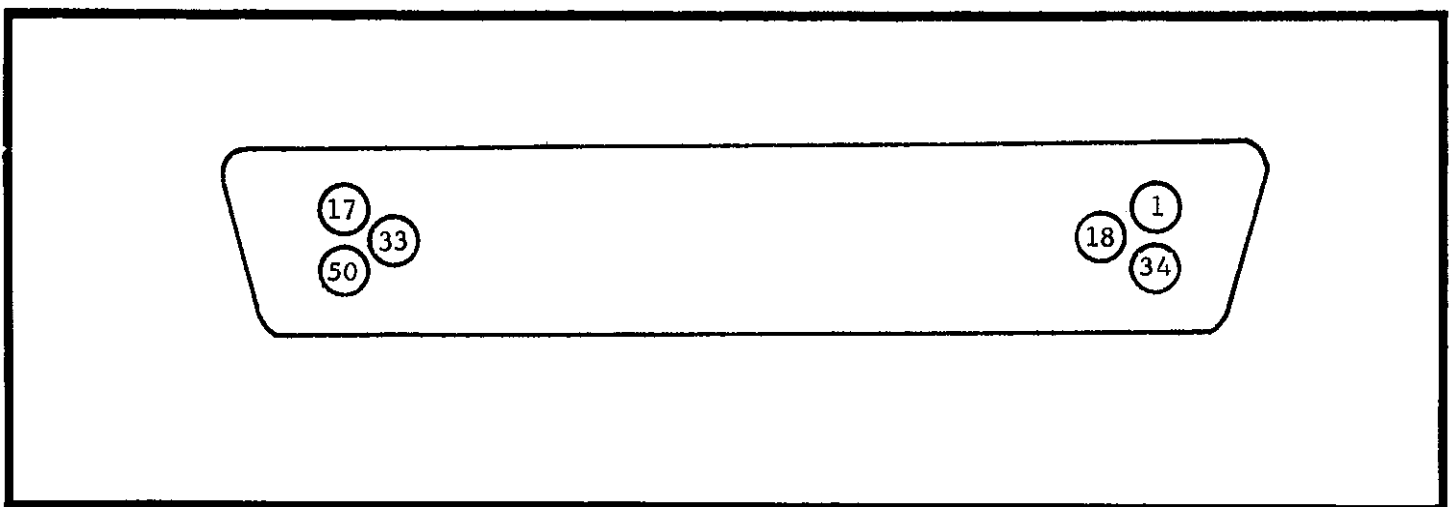

FIGURE 19. Identification of Pins on Digital Output Connector.
1. Bench Mounting. Position the Model 6162 on the left side of the Model 616 as shown in Figure 19 since the interconnecting cable has been designed to mate with the 616 in this configuration only. Remove the "side dress" panels (Item 11) on the sides which are adjacent. Loosen the socket head screws (Item 24) and slide the panels to the rear of the instruments. After both panels are removed install the "mounting clamp" (Item 23)
c. Connections. A single prewired cable plugs into the 616's chassis to provide all necessary communication between units. To install the cable, remove the 616's top cover, place rubber grommet within the rear panel slot, insert cable, and plug the three mini-connectors into their respective pc-board locations as shown in Figure 19. A separate 50-pin AMP type 205211-1 connector provides isolated outputs and control lines. A mating 50-pin connector is furnished with the 6162 (Keithley Part No. CS-271).